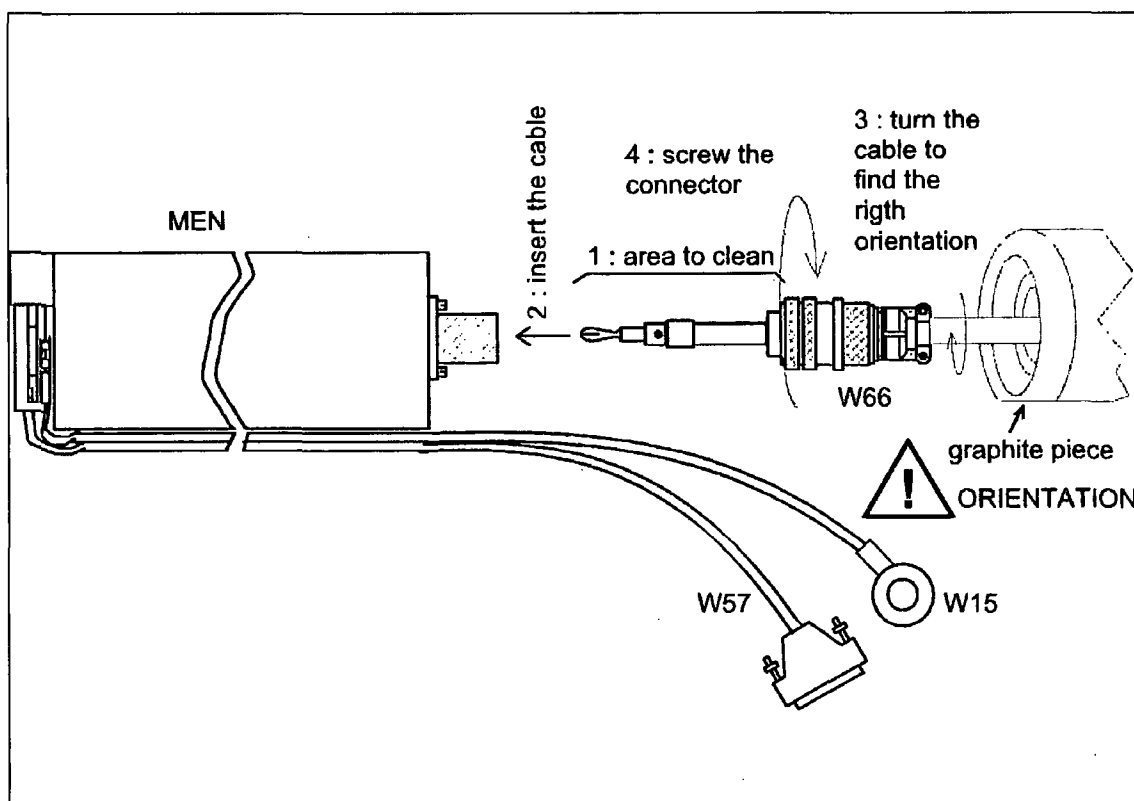

Figure 46 - Installation and cabling of the MEN
- ☐ Take the small graphite piece in the « kit of accessories » box and pass the cable W66 through this piece. This piece is very fragile. Make absolutely sure that it is the right way round (see Figure 46).
- ☐ Insert the high voltage cable (W66) into the high voltage connector of the MEN. Turn the cable, in order to put the connector in the right position (see Figure 46).